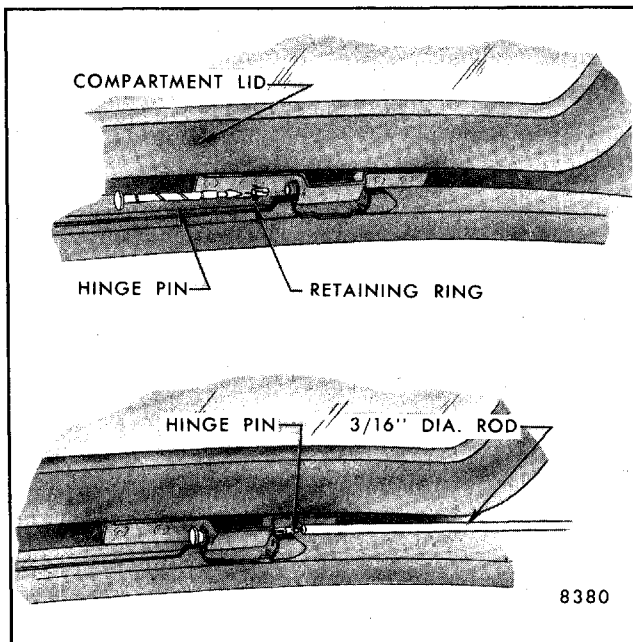

Fig. 7-9-Hatchback Lid Hinge - H-07, 77 Style - Right Side Shown
in Figure 7-9, place end of rod against pointed end of hinge pin; then strike rod firmly to shear retaining ring tabs and drive pin through hinge. Repeat operation on opposite side hinge and remove lid from body.
8. To install H-07 and 77 hatchback lid, reverse removal procedure and prior to installing hinge pins, install new retaining ring in notches provided in pins. Position retaining ring so that tabs point toward head of pin as illustrated in Figure 7-9.